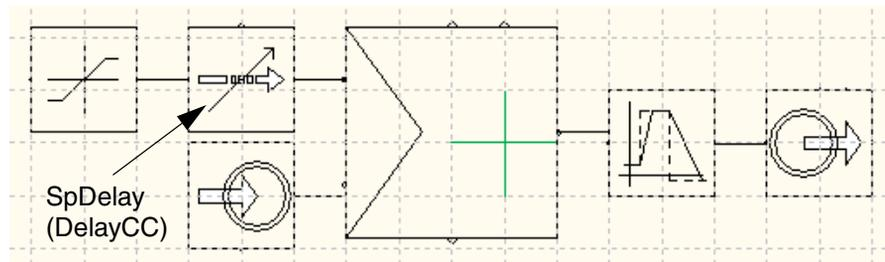

Figure 111. The result in of the new control solution in CMD editor
10. Create an instance of DelayCC type (ControlExtendedLib) with instance name SpDelay and add it between the SpLim and Pid control modules. Make sure that the graphical connections are correct. See Figure 111.